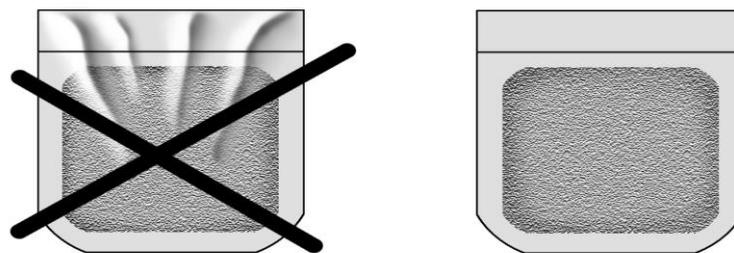

Fig.2
- There should be no bag folds under the bar to avoid subsequent loss of sealing (Fig. 2).